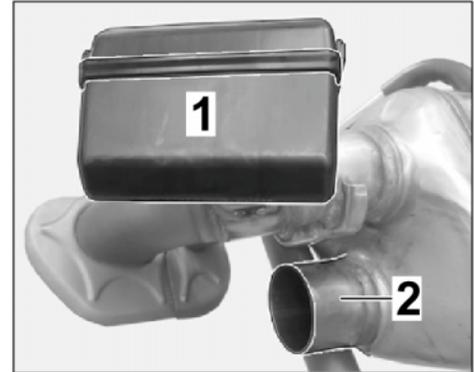

Figure 6
2.4.2 Remove transport protection shell on the new muffler in the exhaust flap connector area (⇒ *Figure 6*).